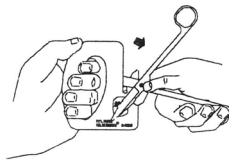

Figure 2
3. Place flat side of inside blade against sharpener with cutting edge resting on sharpening stone. *Figure 2*